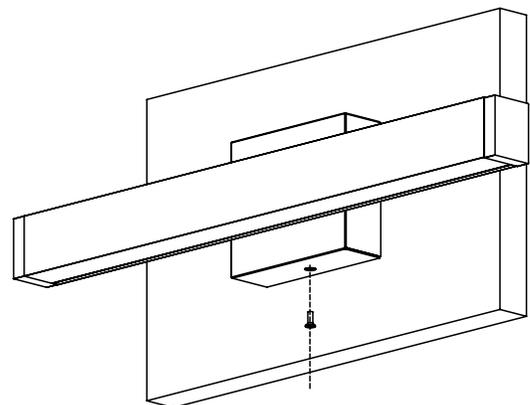

Fig. 4
4. Tighten screw located on the bottom of the fixture base (Fig. 4).